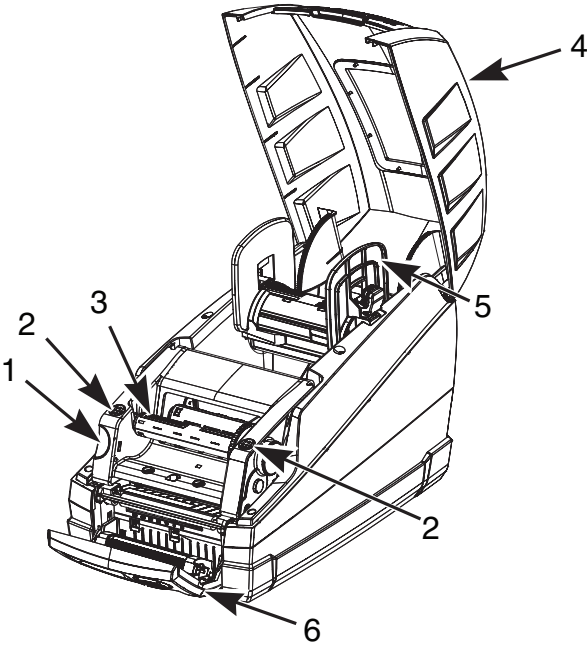

Figure 1, Brady IP Label Printer
- Open the label printer cover (**Figure 1, 4**).
1. Lift open the label printer cover (**Figure 1, 4**).
8. Close the printer cover (**Figure 1, 4**).
8. Close the printer cover **(Figure 1, 4)**.